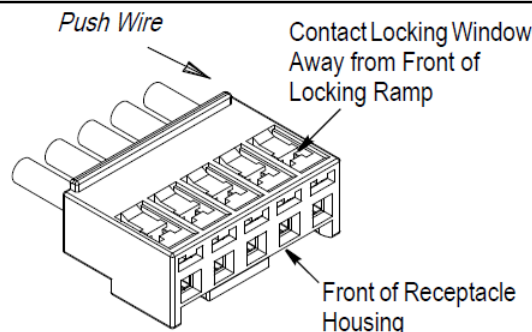
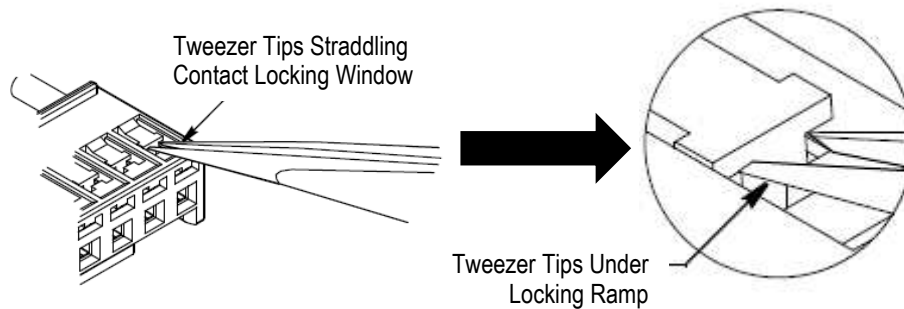
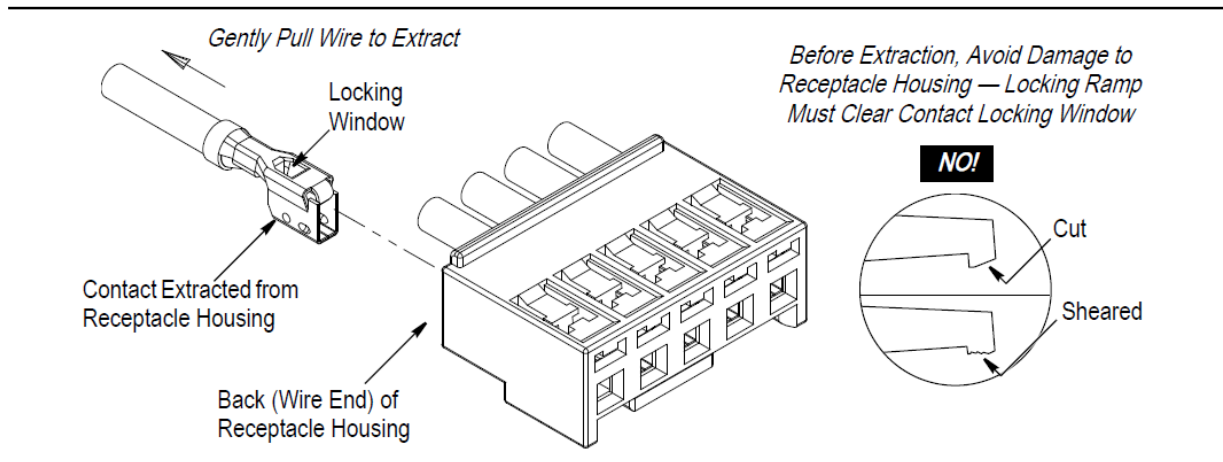

Figure 2
Figure 3
Figure 5
2. Grasp the wire of the contact to be removed, and push the contact toward the front (mating end) of the receptacle housing (this will move the front of the contact locking window away from the locking ramp). See Figure 2.
- While keeping the contact in place, position the tweezer under the locking ramp so the tips straddle the contact locking window. See Figure 3.
- While holding the locking ramp in position, gently pull back on the wire until the contact is free (see Figure 5).
DO NOT pull the wire abruptly. If the locking ramp is not raised enough to clear the contact locking window, the locking ramp will be cut or sheared (see Figure 5). DO NOT raise the locking ramp to check for damage; instead, after inserting a contact into that contact cavity, pull back on the wire to ensure that the locking ramp has engaged the contact locking window. If the contact pulls out, the locking ramp has been damaged and must be discarded. The contacts may be removed and re-used.
- ◆ Split Figure 2 Detail A, B, and C into Figure 2, 3 and 4. Also, original Figure 3 renumbered as Figure 5.